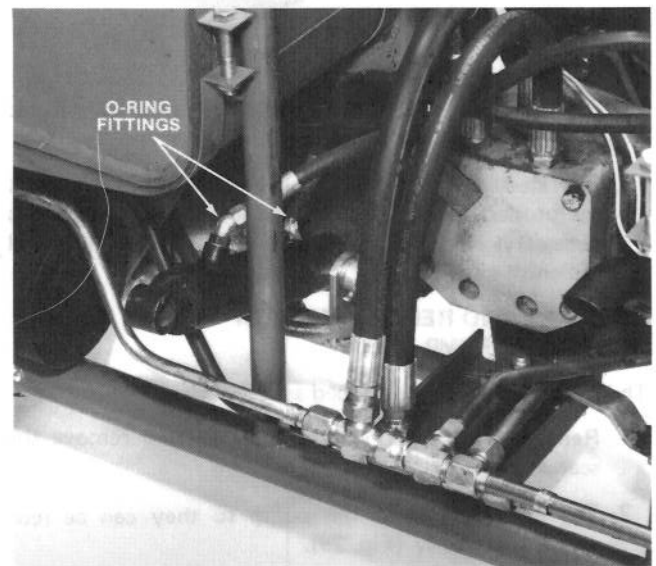

Figure 33
3. Remove the two hoses from the cylinder and plug or cap the hoses (Fig. 33).
6. Use new O-rings on the elbows when installing the elbows in the new cylinder (Fig. 33). Dip the O-rings in hydraulic fluid and install them on the elbows. Make sure they are not twisted. Rotate the elbows to their original position and secure with lock nuts. Coat lift cylinder mounting pin with "NEVER-SEEZ" or grease.